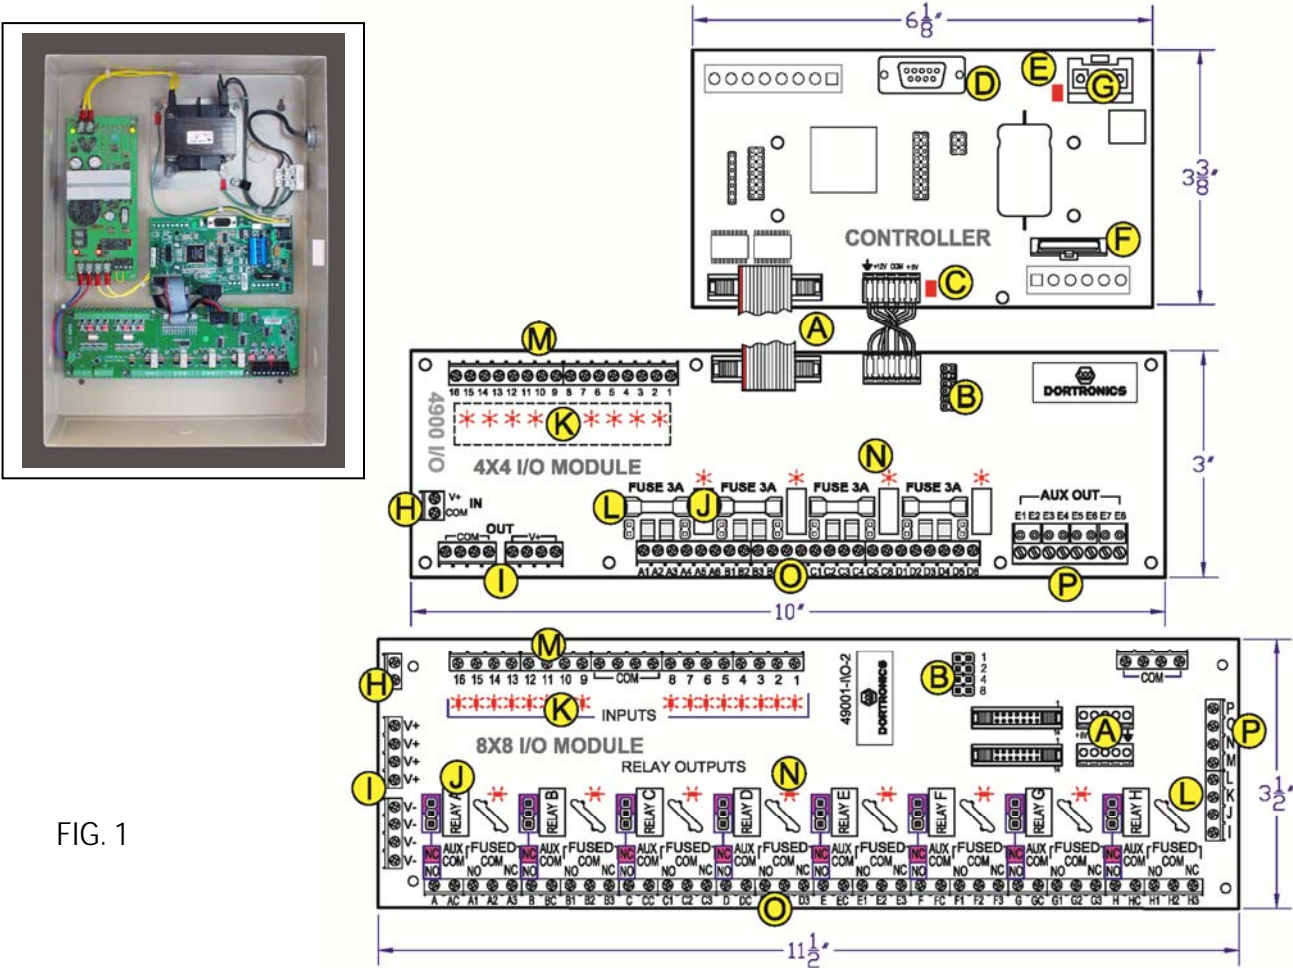

FIG. 1
Mag locks and strikes are connected to the designated relay contacts by labeled screw terminals. Relay outputs are dry contacts. Power for maglocks, strikes and indicators may be external or sourced from the I-O Module. See Figure 1 (I). Jumpers may be used to connect relay common to supply positive (+). When relays are operated with wet contacts shorting the output **will blow the fuse and may damage the I-O board!**
The PLC status is continually monitored by a watchdog function. The watchdog LED (see Fig 1) blinks rapidly (at a rate of 3 times per second) to indicate that a program is loaded and is being executed correctly. If the watchdog indicator is not blinking, verify that there is 12 or 24 VDC at the correct power terminals. If power is present and the watchdog indicator is not blinking, or blinking slowly, contact Dortronics for technical assistance.